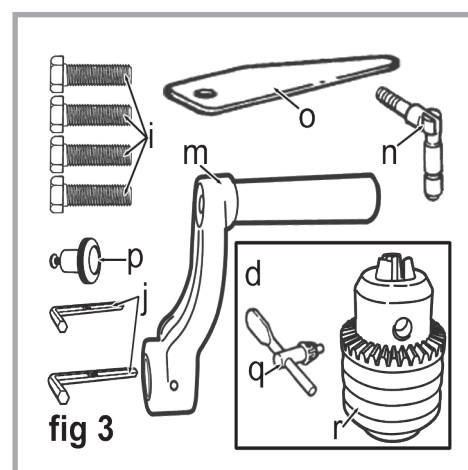

fig 3
5. Install an M5 x 12 pan head screw from the inside of the pulley cover through the hole and attach the knob (p, fig 3) to the outside.
4. The idler pulley (s, fig 3) may be supplied uninstalled. Lubricate the idler pivot shaft and idler pulley with light grease.
7. Check the chart inside the pulley cover (or the drill speed chart in the Adjustments section), and fit the belts (l, fig 3) in positions corresponding to spindle/drill speed required.